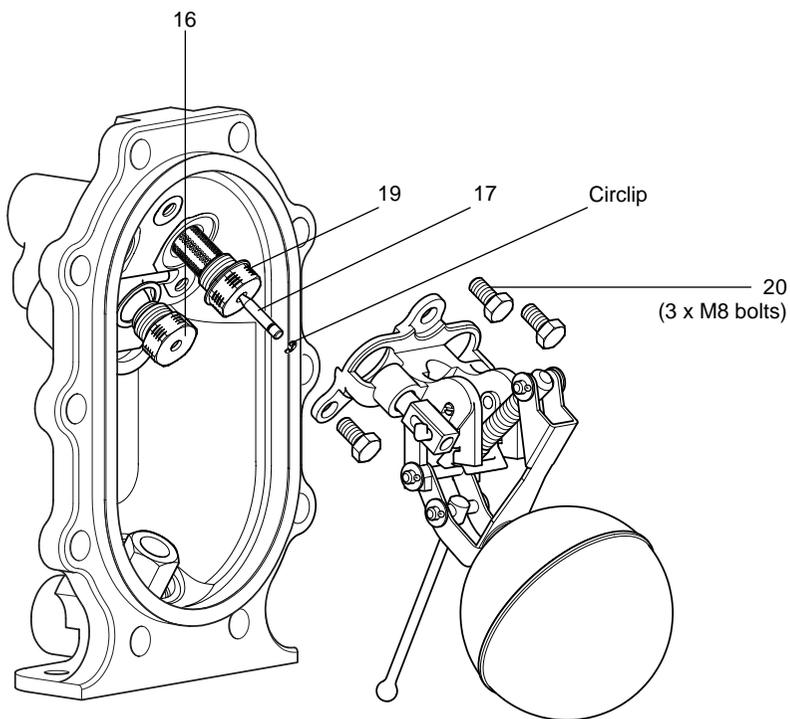
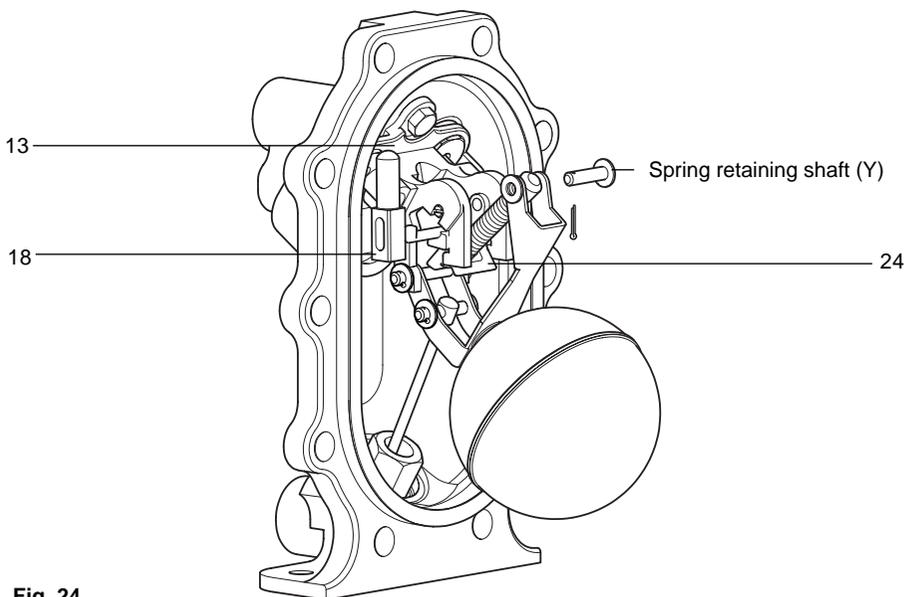

Fig. 23
Fig. 24
3. Carefully remove the circlip from the end of the steam inlet valve (item 17).
4. Remove the three M8 bolts (items 20) using the 13 mm A/F socket.
9. Insert the replacement steam valve assembly (item 17) and exhaust valve (item 16) according to Fig. 23.
10. Place a new metal gasket (item 19) onto the threads of the seat before tightening into the cover.
15. To remove the exhaust valve (item 18), remove split pins, washers, and shaft (Y) from the top spring pivot point. (See Fig. 24).
17. Draw the actuator arm downwards within its slots until the whole spring and actuator arm assembly with the exhaust valve comes free. It may be necessary to slide the exhaust valve backwards against its internal spring to free it from the pump bracket guide (item 13).
18. Align the slot in the exhaust valve (item 18) with the tang of the actuator arm (item 24) (See Fig. 24).